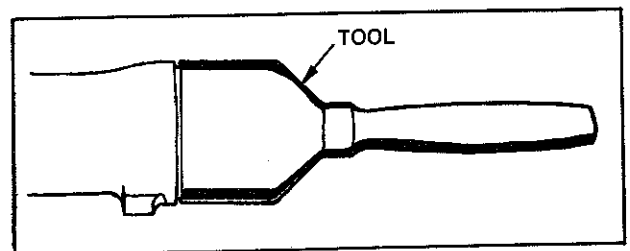
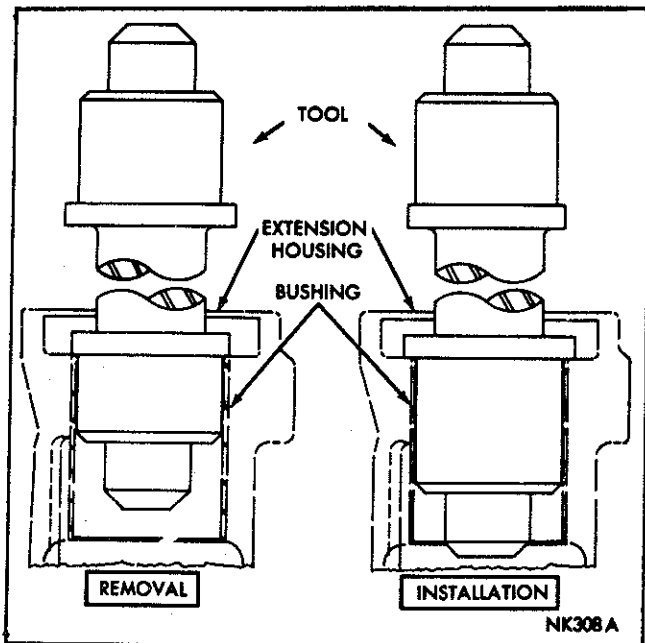

Fig. 16—Installing extension housing yoke seal
Fig. 17—Replacing extension housing bushing
- (3) To install a new seal, position seal in opening of extension housing and drive it into the housing with Tool E21M10B (Refer Fig. 16).
- (1) Pry or drive oil seal out of extension housing with a long blunt drift. Be sure not to mark oil seal surface in the housing.
- (2) Press or drive out bushing with Tool E21M50 (Refer Fig. 17).
- (3) Slide a new bushing on installing end of Tool E21M50. Align oil hole in bushing with oil slot in the housing, then press or drive bushing into place.
- (4) Install a new oil seal into housing with Tool E21M10B (Refer Fig. 16).